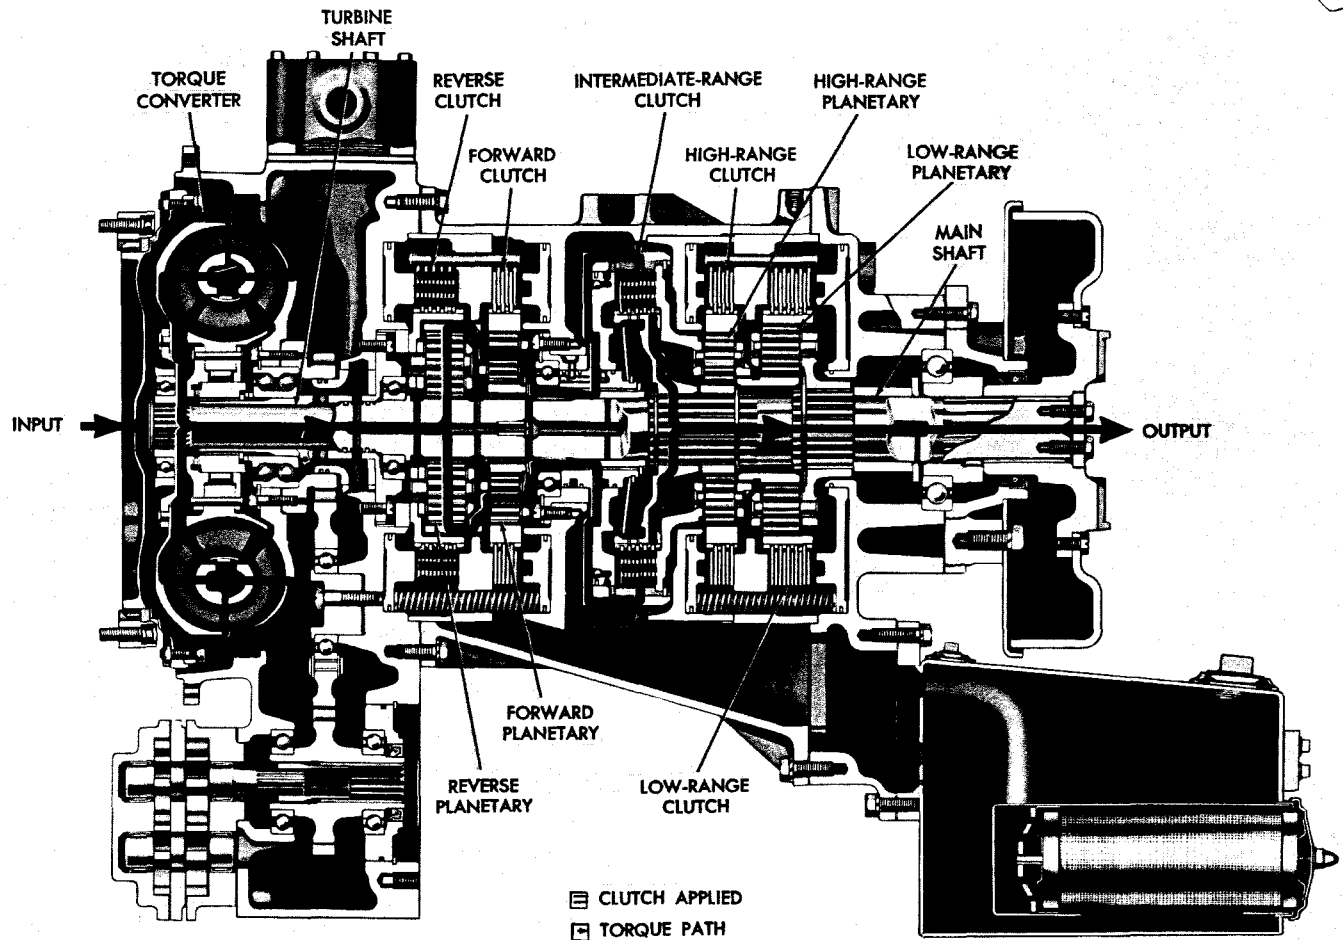

Fig. II-6. Reverse, intermediate range—torque path (CRT 3531-3)
28. TORQUE PATH — REVERSE, INTERMEDIATE RANGE (fig. II-6)